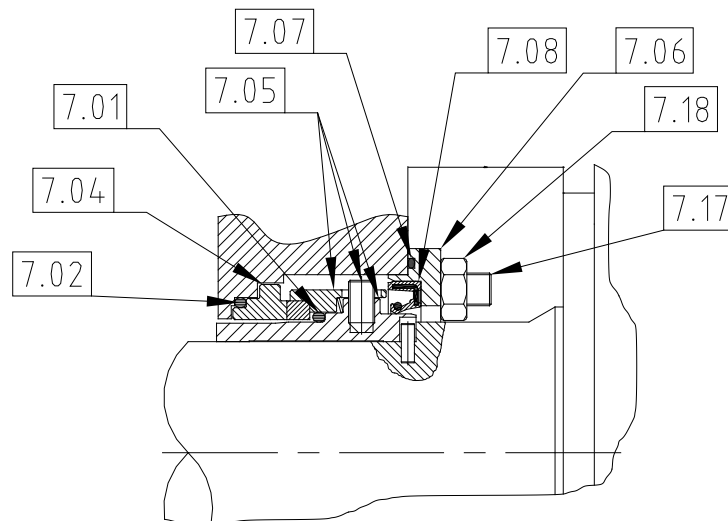

Fig 42 Single Flushed Mechanical Seal for CP50
- Refer to Fig 42 for Single flushed mechanical seal for CP50.